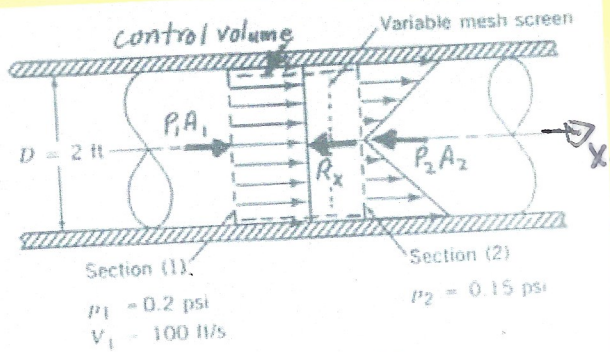

FIGURE P5.60
5.60 A variable mesh screen produces a linear and axisymmetric velocity profile as indicated in Fig. P5.60 in the air flow duct. The static pressures upstream and downstream of the screen are 0.2 and 0.15 psi and are uniformly distributed over the flow cross section area. Neglecting the force exerted by the duct wall on the flowing air, calculate the screen drag force.
P5.60 A variable mesh screen produces a linear and axisymmetric velocity profile as indicated in Fig P5.60 in the air flow through a 2 ft diameter circular cross duct. The static pressure upstream and downstream of the screen are 0.2 and 0.15 psi and are uniformly distributed over the flow cross section area. Neglecting the force exerted by the duct wall on the flowing air, calculate the screen drag force.